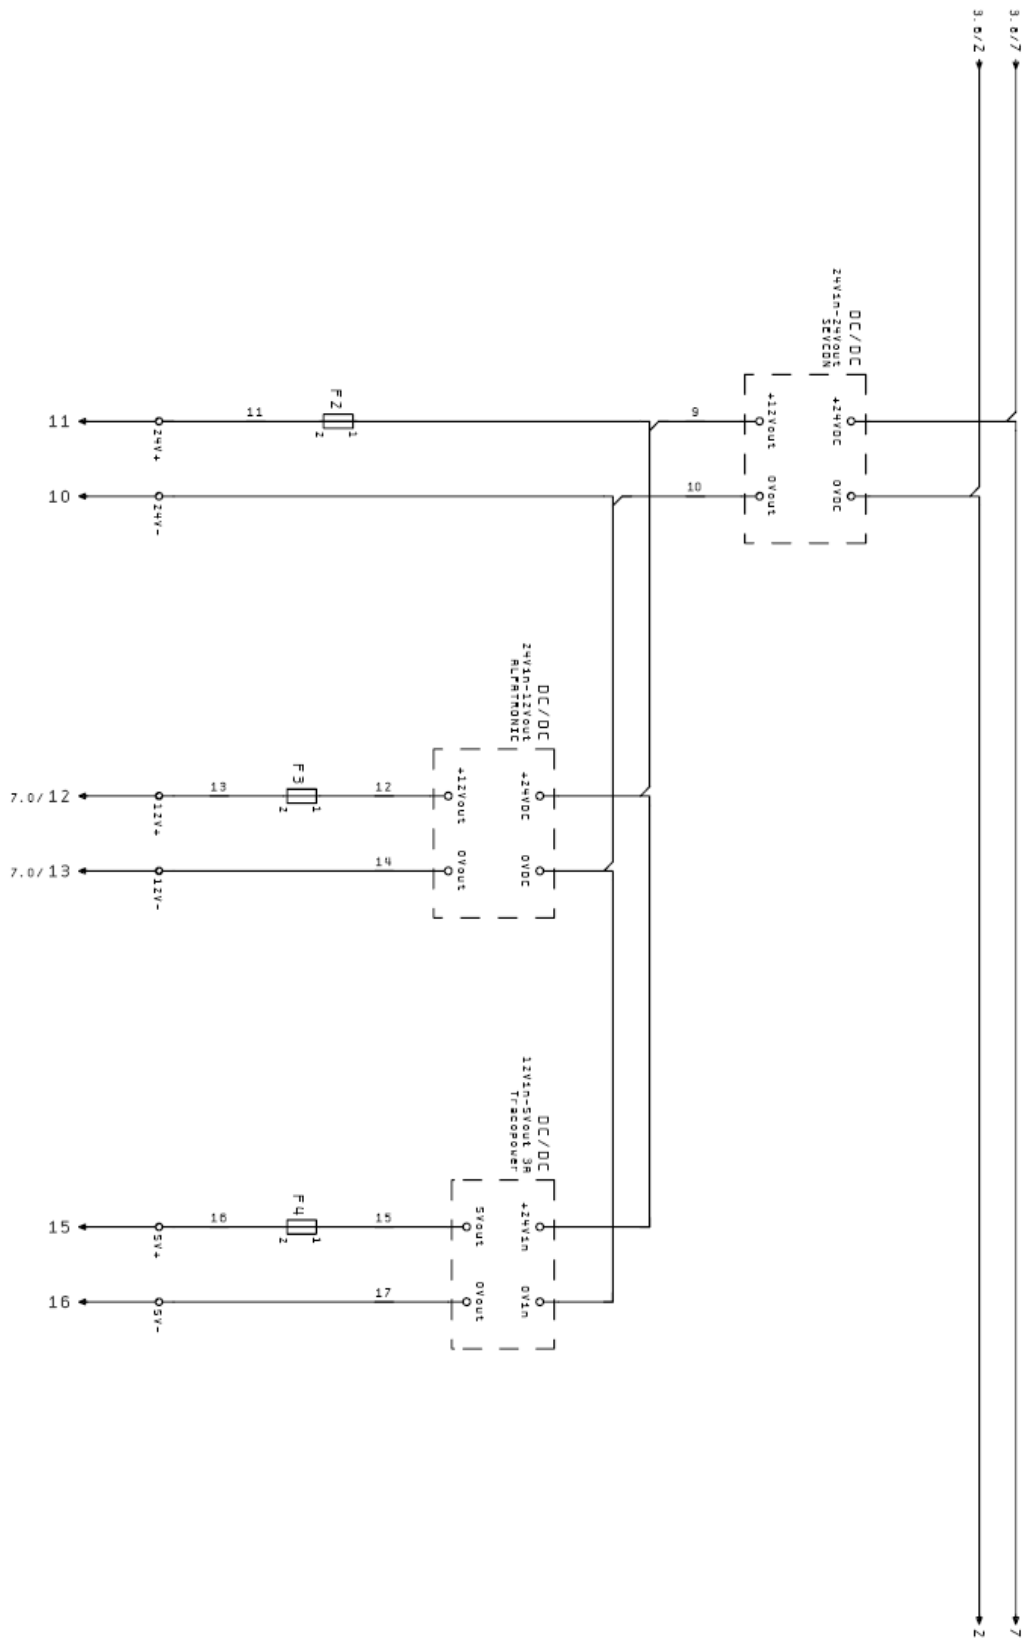

Figure 28: DC/DC Converter Supply Drawing
- Figure 28 *DC/DC Converter Supply Drawing*